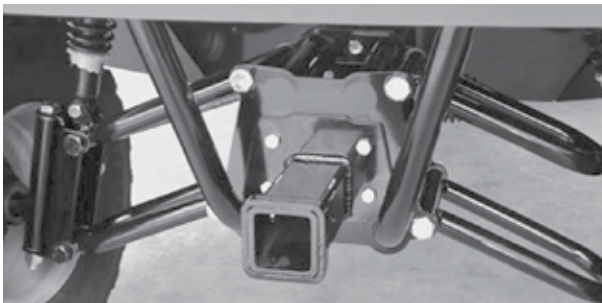

Fig. 2
- 4 Place the receiver on the front suspension mount inserting the bolts through the large opening and into the holes in the back plate. Install the nuts and tighten as shown finished in figure 2 on page 2.